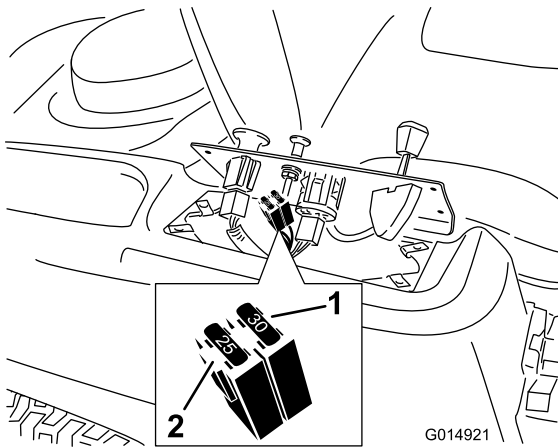

Figure 36
2. Lift the control pane up to access the main wiring harness and fuse block (Figure 36).
3. To replace a fuse, pull out on the fuse to remove it (Figure 36).